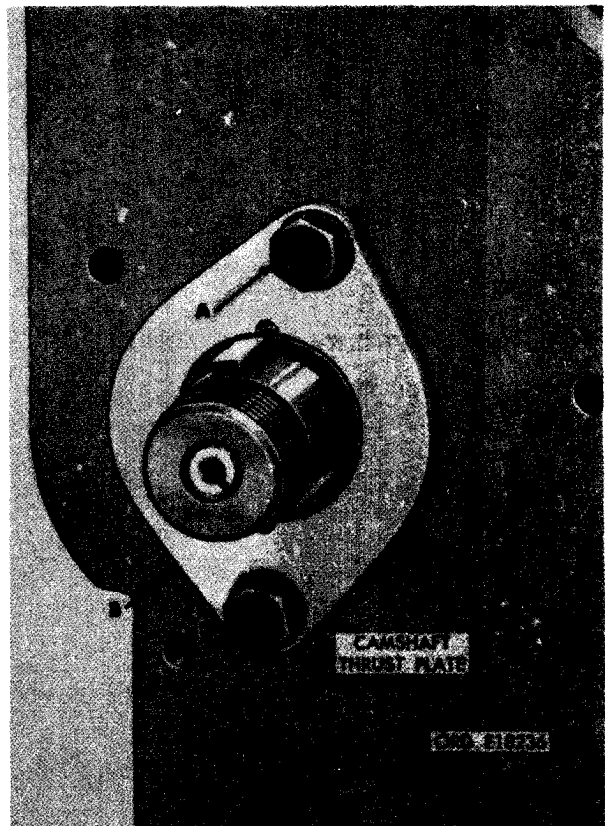

FIGURE 310. REMOVING OR INSTALLING CAMSHAFT THRUST PLATE.
- (1) Figure 310. (A) Remove two 3/8 x 1 cap screws and 3/8-inch lock washers securing camshaft thrust plate to cylinder and crankcase assembly. (B) Remove camshaft thrust plate.